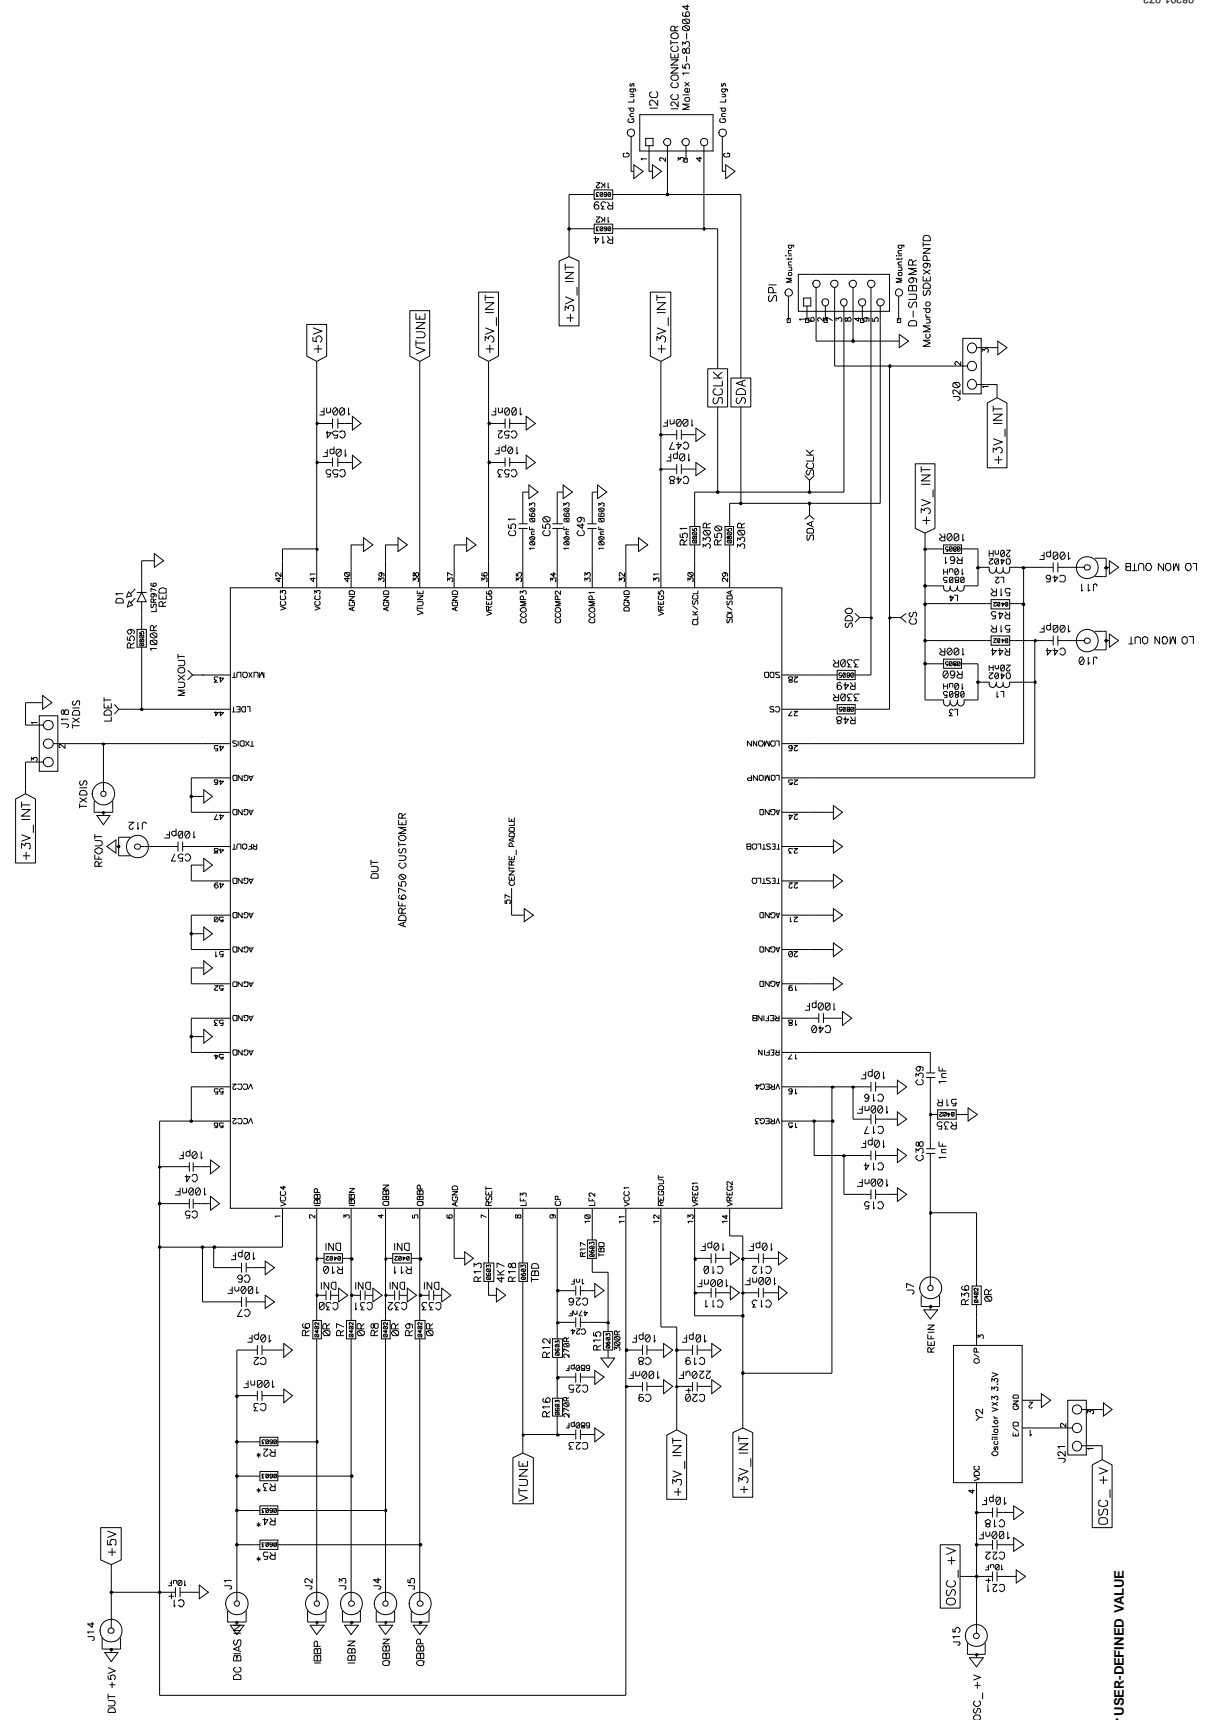

Figure 71. Applications Circuit Schematic
- Write Register CR9: 0x70. With the recommended loop filter component values and  $R_{SET} = 4.7 \text{ k}\Omega$ , as shown in Figure 71, the charge pump current is set to 2.5 mA for a loop bandwidth of 50 kHz.
For more information, refer to the circuit diagram in Figure 71.